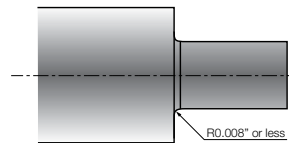

Fig.1 Example of a specified corner-R in the drawing
- If a minus tolerance is specified for the corner-R(re) as shown in the Fig.1, using an insert with corner-R(re) = 0.008" may result in larger radius than specified.